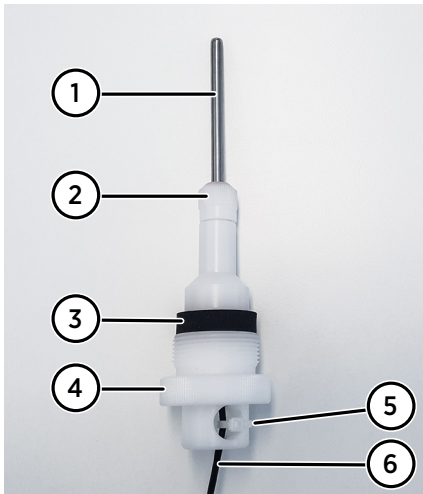

Figure 28 HMP9 probe head with sensor head support 215130
2. Attach the probe head to the sensor head support and secure it with a cable tie. The alternate sensor head support (item code 215130) needed with HMP9 is shown in Figure 28 \(page 53\).